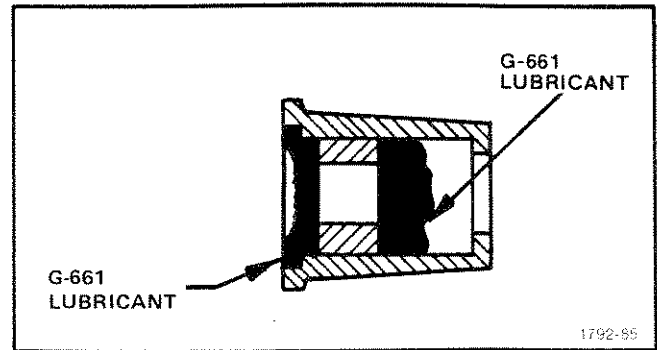

Fig. 5-32. Lubrication of ZERO REFERENCE knob.
**28. Installation of the ZERO REFERENCE knob and the zero reference CHECK pushbutton (see Figs. 5-32 and 5-33)**
- 1. Apply G-661 lubricant to the ZERO REFERENCE knob as shown in Fig. 5-32.